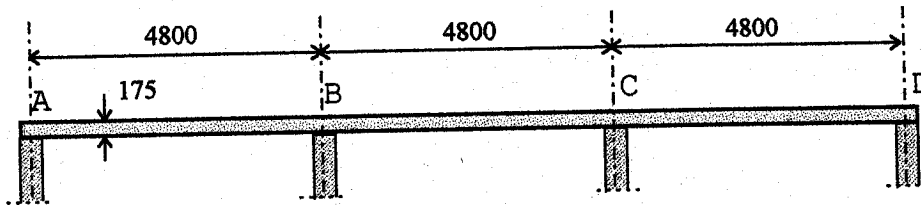

Fig. Q1
1. The continuous one-way spanning slab shown in Fig. Q1 spans onto walls at 4.8m centres. The 175 thick slab carries a characteristic imposed load of 3.5 kN/m^2 , uniformly distributed, in addition to self-weight. Design flexural reinforcement for the slab and check its adequacy as regards shear and deflection. Sketch, in plan and section, a suitable arrangement of reinforcement in the slab.